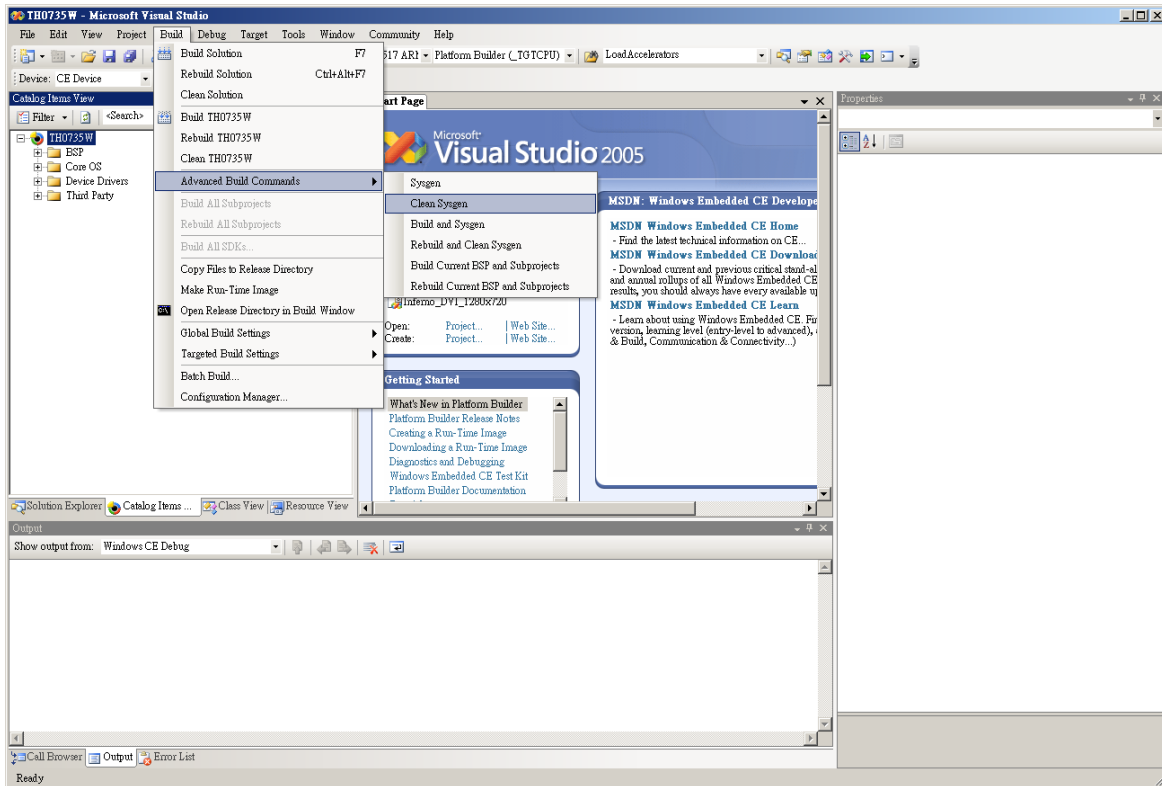
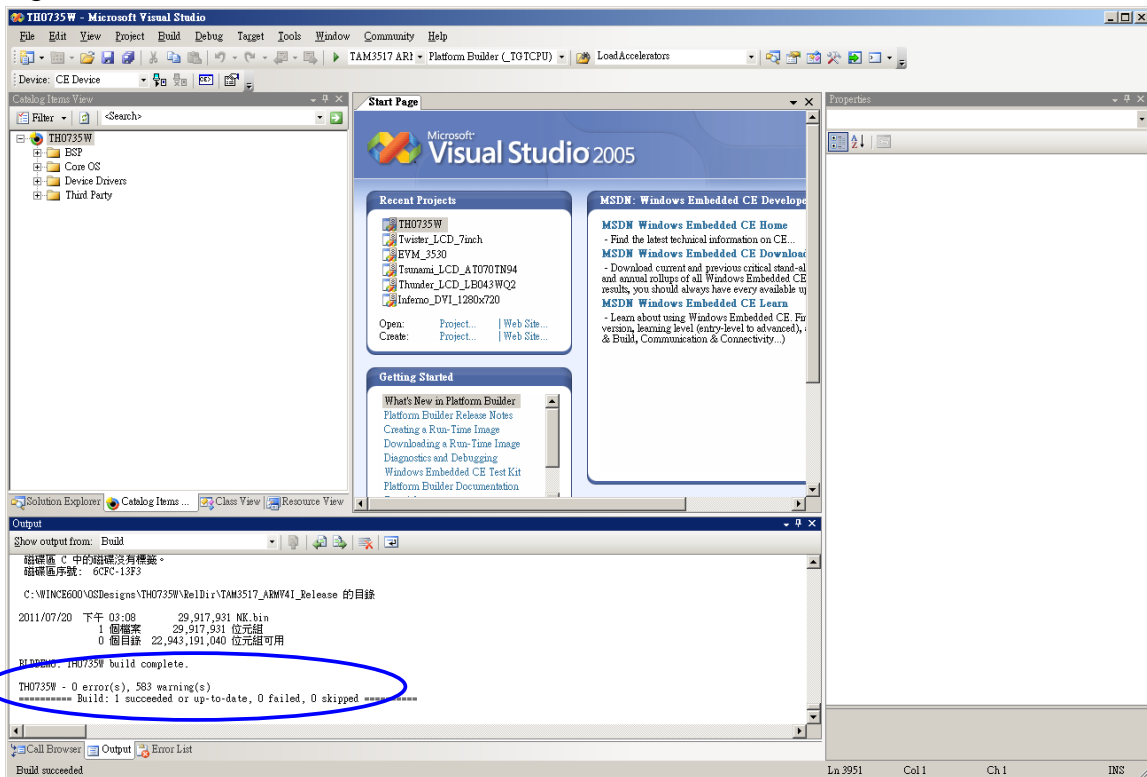

Figure 8
Figure 9
- In the menu click “build/advanced build command/Clean Sysgen” (See figure 8) This will take approximately 20 minutes, after which you will see “build complete” (see figure 9)